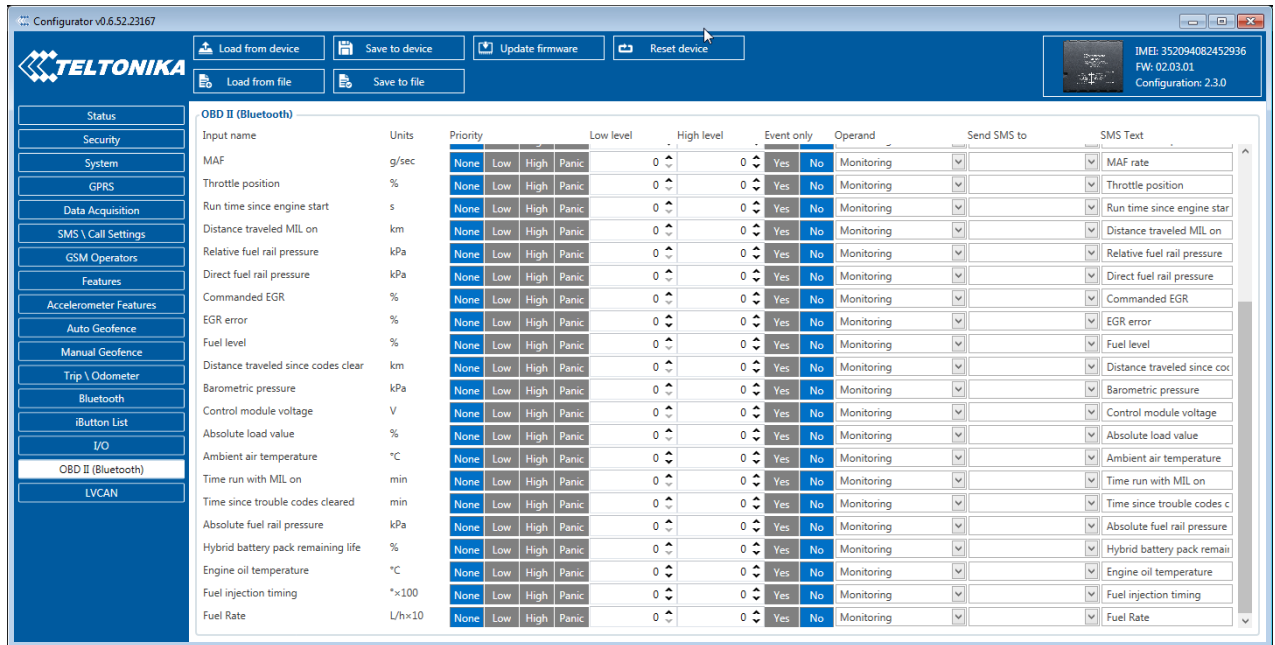

Figure 47 OBD II Blue-tooth settings.
- Go to “**OBD II (Blue-tooth)**” in left menu and select priority and others parameters visible at **Figure 47**.